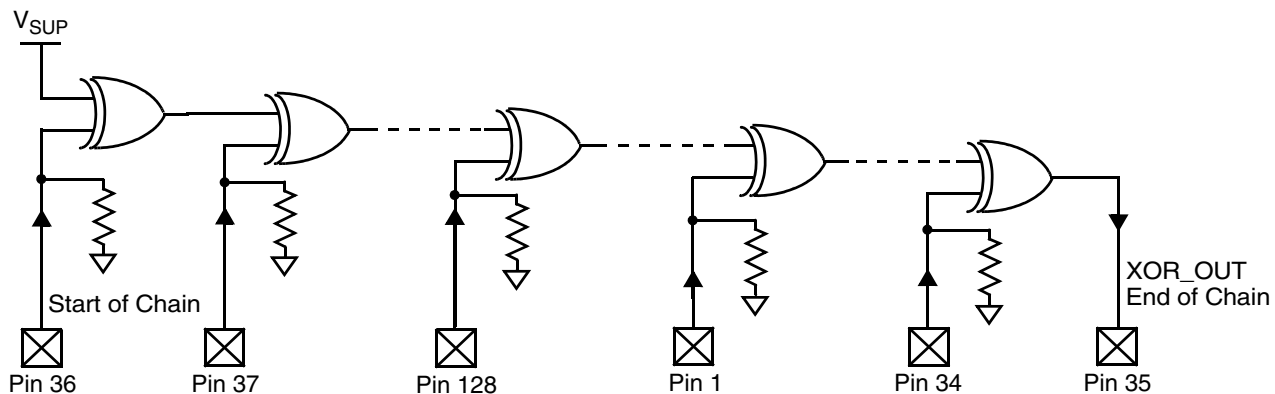

Figure 5. XOR-Tree Chain (Simplified Diagram)
The input pins are chained through XOR gates, as shown in Figure 5. The power supply pins (AVCC, VCC, VDD, VCORF, Reserved pin 80, AGND, GND), ADC input pins (AD0-AD3), ADC reference pin (VREF), DAC output pins (DA0-DA1), GPI96-97 pins, V_{CC_POR} pin and crystal oscillator pins (32KX1, 32KX2) are excluded from the XOR tree. In XOR-Tree mode, all pins in the XOR tree have their internal pull-down resistors enabled, with the following exceptions:
The XOR-tree chain starts with pin 36 (see Figure 5), continues with pins 37 (the next pin in ascending order) through 128, goes to pin 1, and ends with XOR_OUT pin (35).